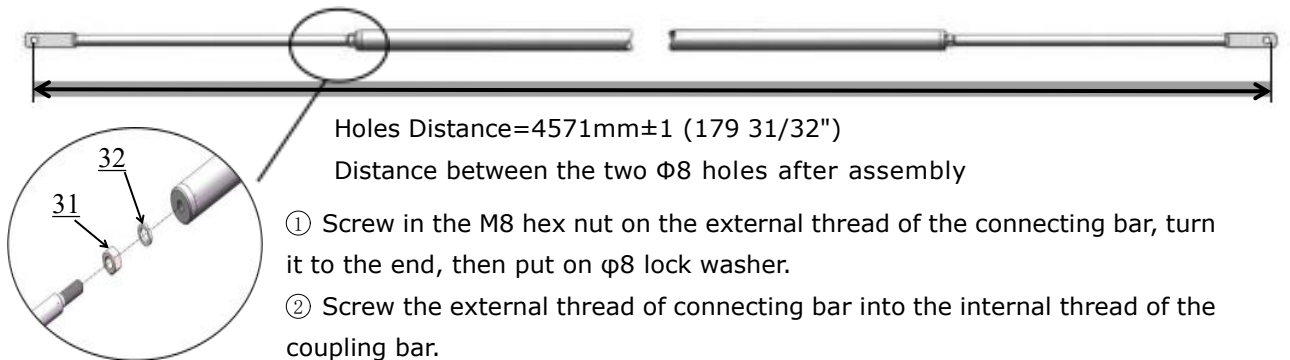

Fig.20
2. Assembly of coupling bar assembly. See fig 20